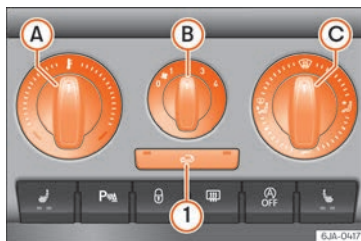

Fig. 168 Heating: controls.
The flow of air from the vents is controlled using control **(C)** » Fig. 168. Vents **3** » Fig. 167 and **4** can be opened and closed individually.
- Turn rotary control **(A)** » Fig. 168 clockwise to increase the temperature.
- Turn rotary control **(B)** » Fig. 168 to position 1 to 4 to switch the blower on.
- Press button **(1)** » Fig. 168 in Air recirculation mode on page 149 to close the fresh air vent.
- Turn rotary control **(C)** » Fig. 168 to select the air vents » page 147, Air vents you wish to activate.
All controls, except control **(B)** » Fig. 168, can be set to any intermediate position.
If the rotary switch **(C)** » Fig. 168 is in the thaw position, the recirculation flap will always be open (button light off).
- Press button **1** » **Fig. 168**, the switch's lamp will light up, indicating that air recirculation inside the vehicle has been activated.